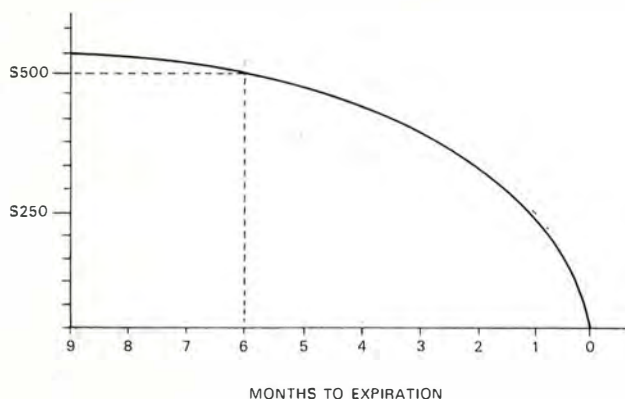

Figure 1. Premium vs Time
1. **Premium** which represents the value for the time left until expiration. It decreases slowly in the first 5 to 6 months, then decreases much more rapidly during the last 3 months of life. For example, using the \$50 stock price in Table 1, a *call* may be worth \$500 with 6 months to go, \$350 with 3 months, and be worthless at expiration. Figure 1 shows a relationship between *premium* and time.